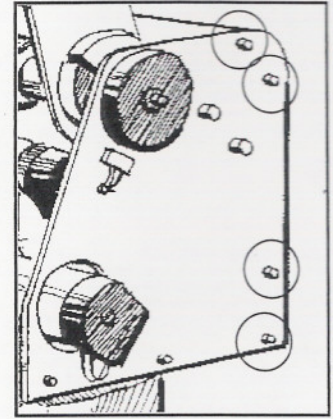

Figure 19: Shoulder Cover Screws
1. Refer to Figure 19. Remove the shoulder cover: